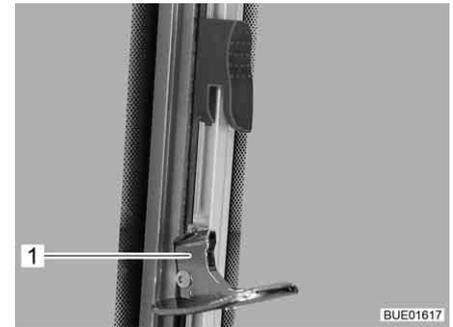

Fig. 117 Sliding window with swivel lock (unlocked)
- Swing lock (Fig. 117,1) inwards.
- Swing lock (Fig. 117,1) outwards.